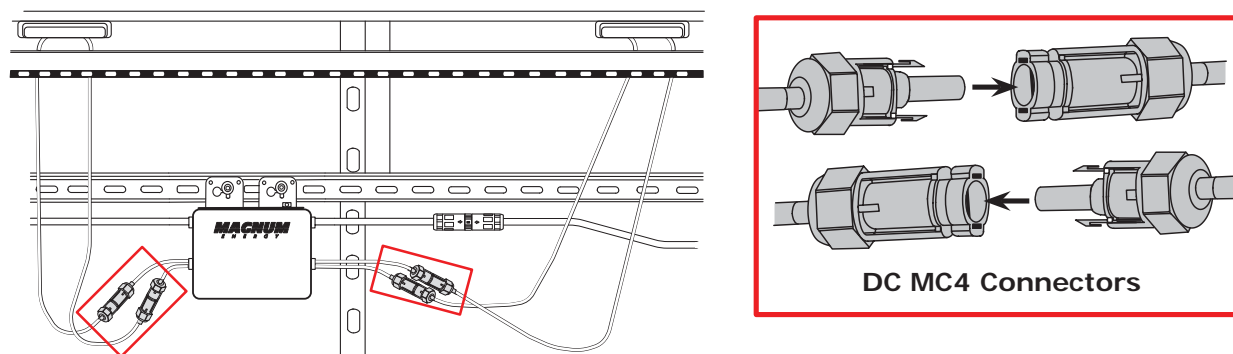

Figure 5, Connecting MicroGT 500 Inverters to the PV Modules
- Connect the MicroGT 500 inverters to the PV modules (Figure 5).